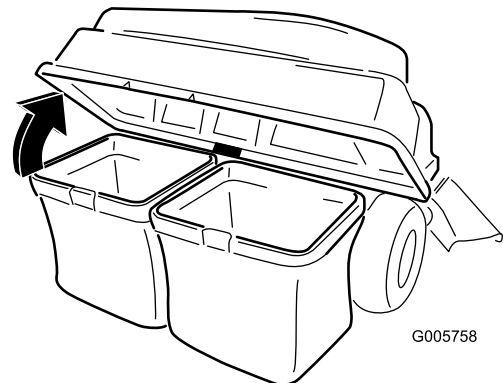

Figure 42
3. Open (raise) the bagger top (Figure 42).